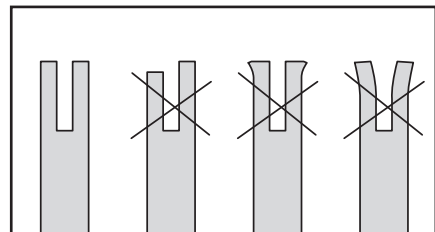

Fig. 14c
5. Regularly check the guide bar rail for abnormal wear. Both sides of the rail should remain at the same height when viewed along the rail edge. Abnormal wear as seen in (Fig. 14c) indicates that the bar needs to be replaced.